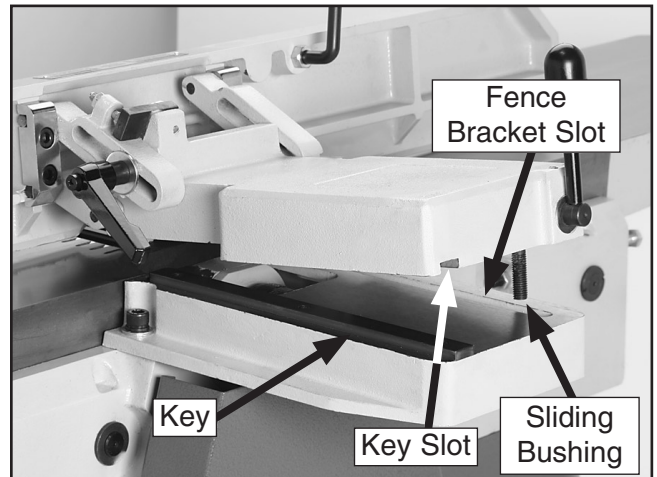

Figure 9. Installing fence assembly.
2. With the help of an assistant, lift the fence assembly over the fence bracket, slip the sliding bushing (**Figure 9**) into the fence bracket slot, and make sure the key and keyway slot fit snugly.